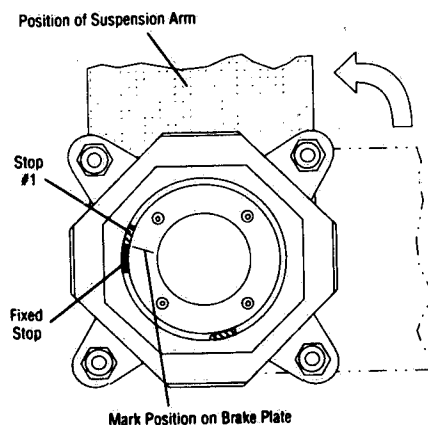

Figure 3-8. Mark Position of First Cushioned Stop
- Manually position suspension arm to one end of the desired range of rotation. Locate the cushioned stop which is still touching the fixed stop and mark the stop's position on top of the brake plate (see Figure 3-8).
- Manually position suspension arm to one end of the desired range of rotation. Locate the stop which is still touching the fixed stop and mark the stop's position on the plate (see Figure 3-8).
7. Manually position main suspension arm to one end of the desired range of rotation. Locate the cushioned stop which is still touching the fixed stop and mark the stop's position on top of the brake plate (see Figure 3-8).